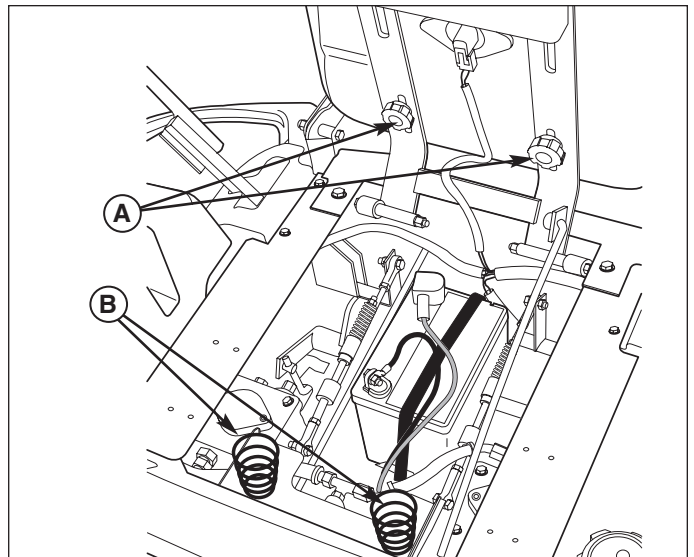

Figure 10. Seat Adjustment
See Figure 10. The seat can be adjusted forward and back. Loosen the knobs (A), move the seat to the desired position, then tighten the knobs.
Move the seat springs (B, Figure 10) into the front of the adjustment slot for lighter operators, and to the rear for heavier operators.